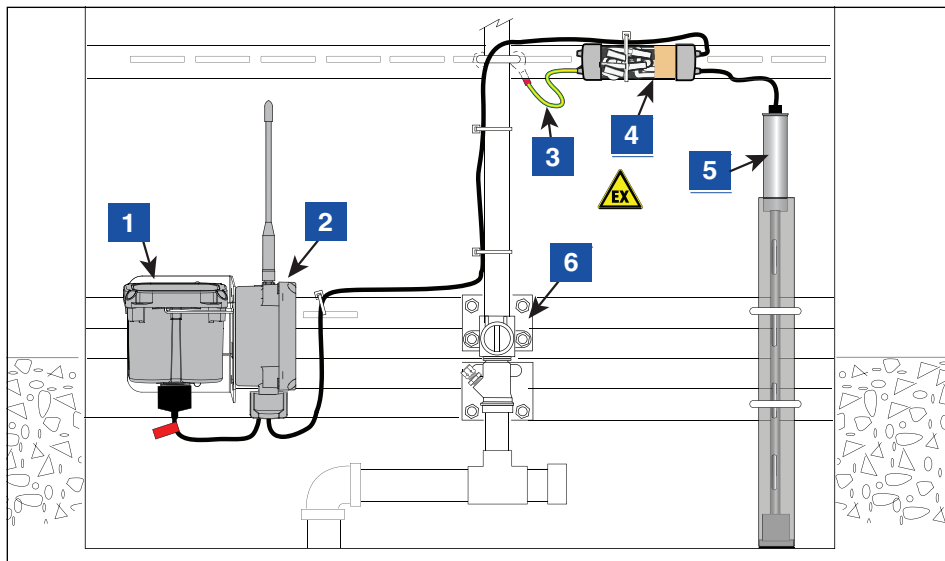

Figure 35. Example Mag Sensor Transmitter Cable Connections
4. Using 25.4mm x 152.4mm (1" x 6") slotted flat bar, two 6.35mm–20 x 76.2mm (¼"–20 x 3") bolts, and two 6.35mm–20 (¼"–20) hex nuts from the installation hardware kit, clamp the support bracket to the DIN railing/tubular support at or below shear valve (see Figure 35).
LEGEND FOR NUMBERED BOXES IN Figure 35